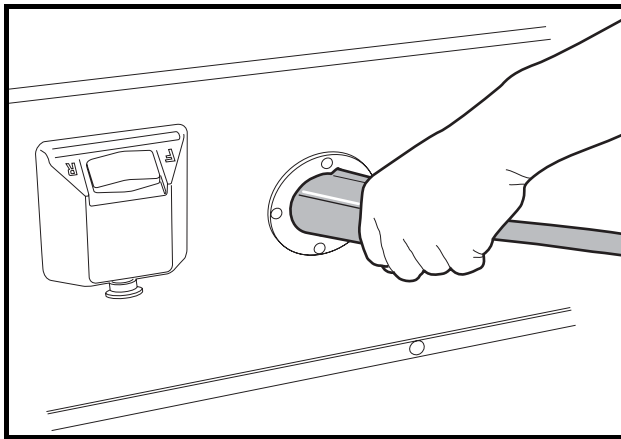

Figure 22 Correct Insertion of Charger DC Plug
- Do not rock or bend the plug. To connect the charger plug to the vehicle receptacle, grasp the plug handle and push the plug straight into the receptacle (Figure 22, Page 38).
Insert the charger DC plug into the vehicle receptacle. The charger will turn on two to ten seconds later (**Figure 22**).